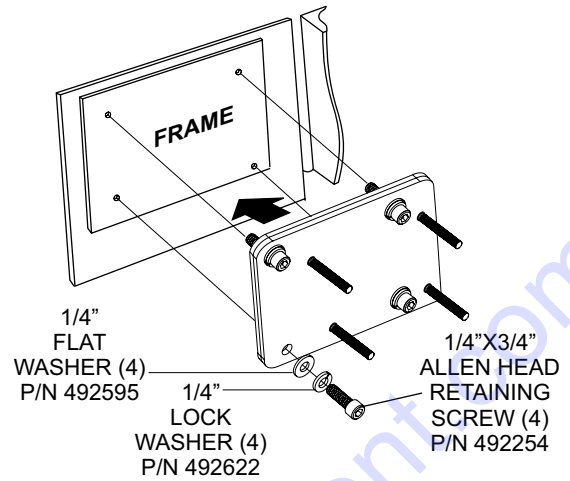

Figure 7. Pump Back/Front Mounting Plates
2. Using four 1/4" X 3/4" allen head screws, secure both the front and back pump mounting plates to the roller frame as shown in Figure 7.